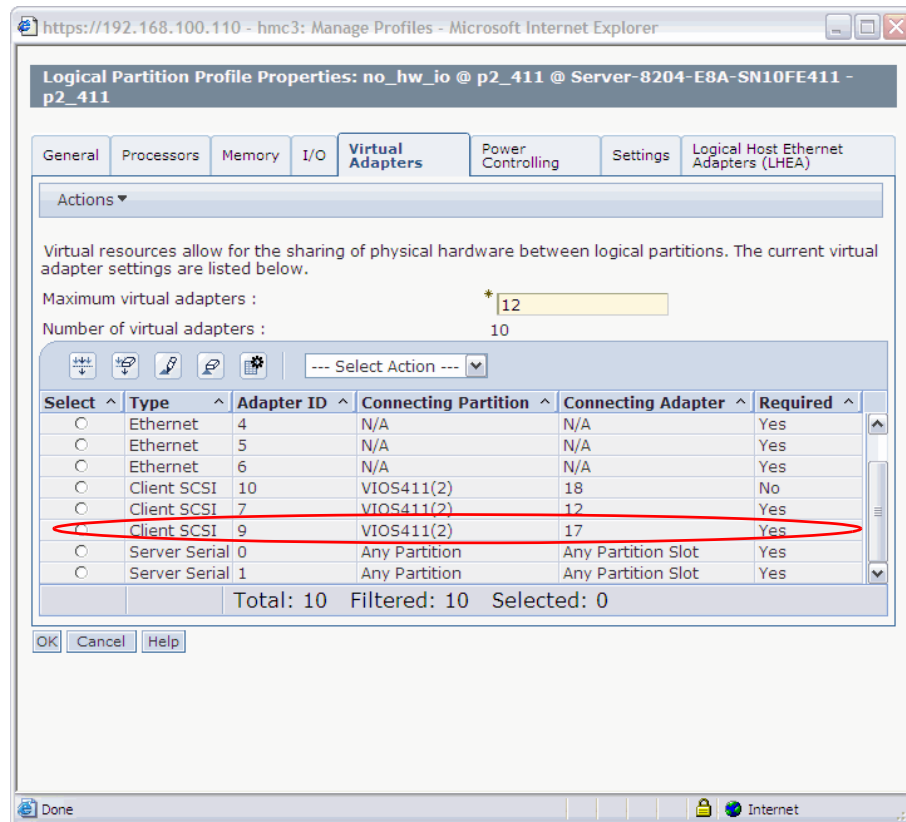

Figure 2-6 Matching virtual SCSI client adapter created in client profile
4. Create the virtual client adapter. You must use the same slot numbers that you selected in the previous step. In addition, select the check box **This adapter is required for partition activation** check box. Your display of the Client Virtual Adapters Properties panel should yield something similar to Figure 2-6 when this step is complete. Note from the figure that the adapter was added to the client partition profile and not dynamically added. This is required in our case because our client is not activated and will use the virtual SCSI device as its boot disk.